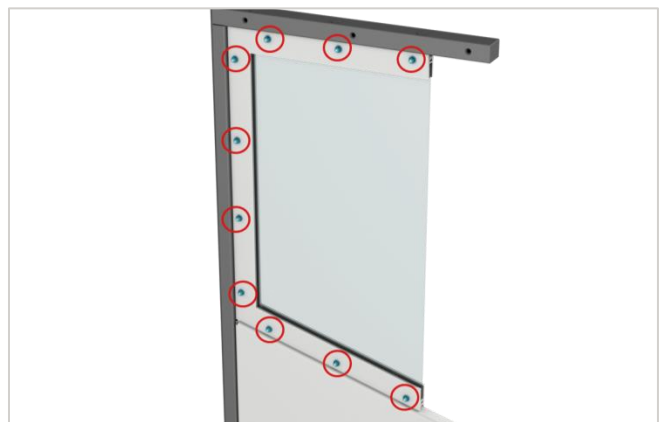

Figure 2 – Loosening / tightening of bolts and acorn nuts.
1. Using the $\frac{5}{32}$ " hex key and $\frac{7}{16}$ " wrench, loosen the bolts and acorn nuts as shown in **Figure 2**.